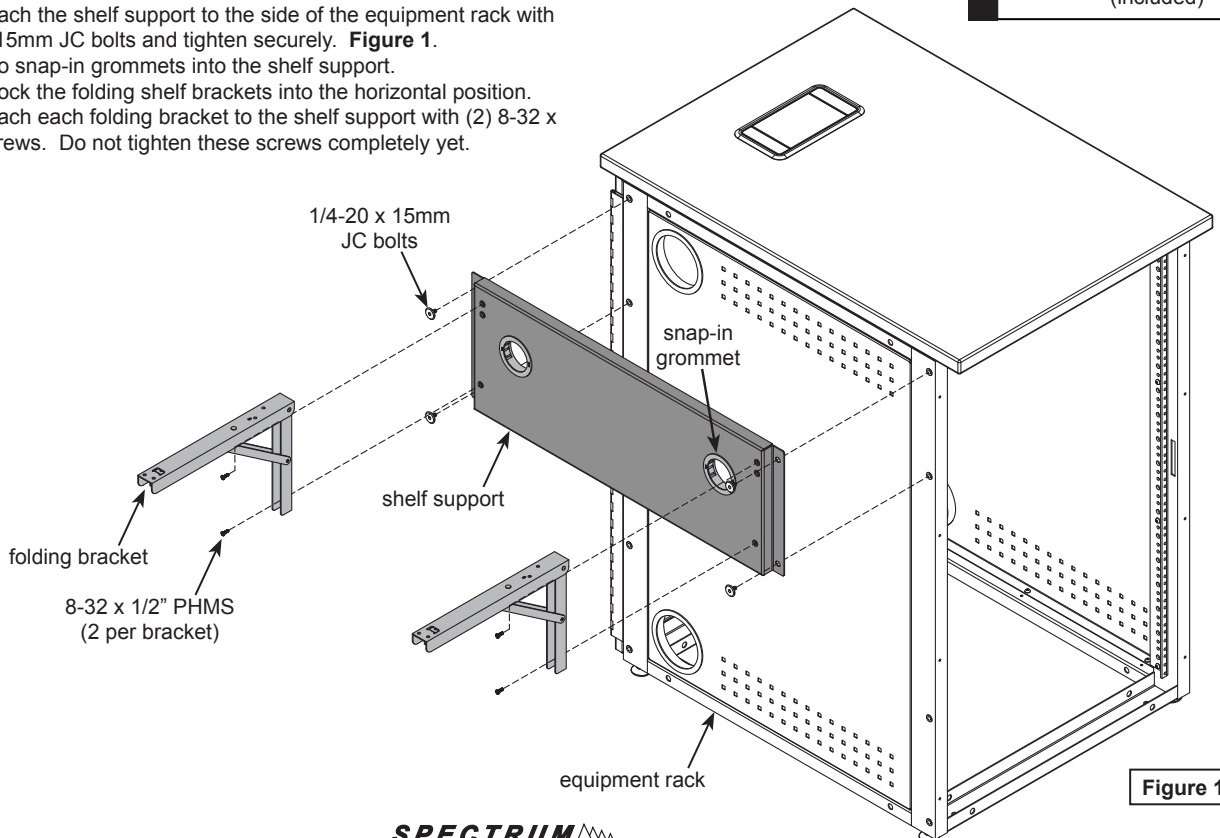

Figure 1
1. Align and attach the shelf support to the side of the equipment rack with (4) 1/4-20 x 15mm JC bolts and tighten securely. **Figure 1.**
4. Align and attach each folding bracket to the shelf support with (2) 8-32 x 1/2" PHM screws. Do not tighten these screws completely yet.